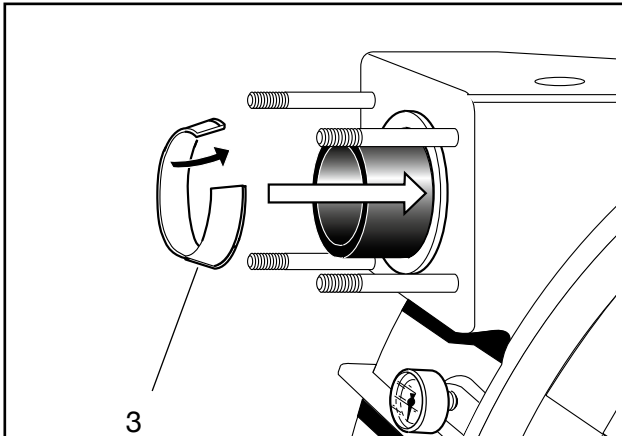

Fig. 23 Assembling the clamping ring pack
Then assemble the clamping ring (Fig. 23).
2. Slightly lubricate one end of the pumping hose with lubricant and push it into the suction port of the pump (Fig. 23), until the hose abuts.